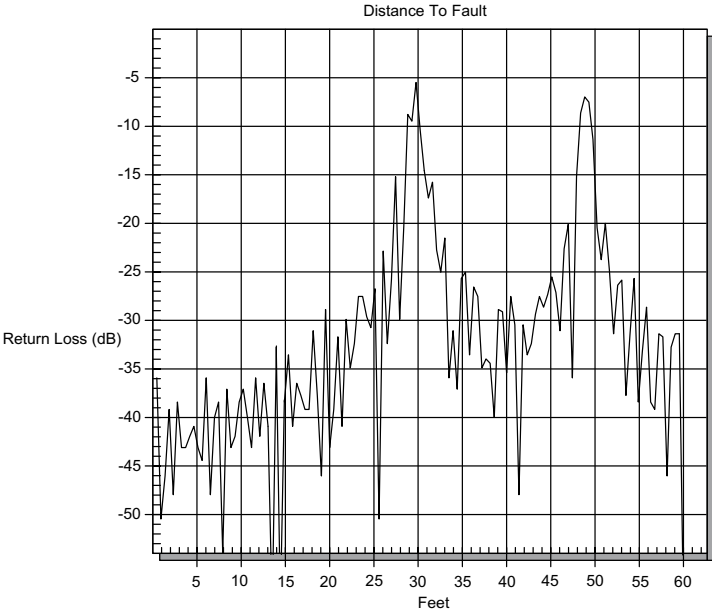

Figure 3-9. Rectangular Windowing Example
*In situations where there may be a small discontinuity close to a large one, side lobe reduction Windowing should be used. When distance resolution is critical Windowing can be reduced. The types of Windowing in order of increasing side lobe reduction are: rectangular, nominal side lobe, low side lobe, minimum side lobe. Figures 3-9 thru 3-12, on pages 3-13 and 3-14, are examples of the types of Windowing.*